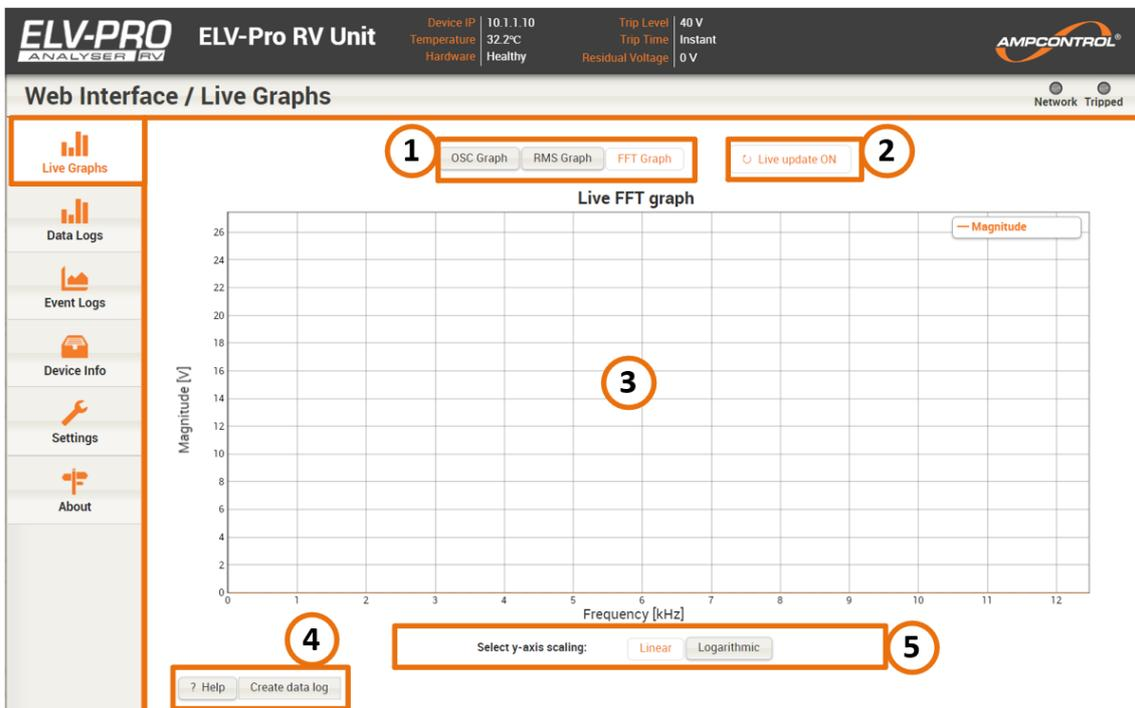

Figure 31: ELV-PRO RV Web Interface - Live Graphs (FFT)
- **FFT graph:** This plot shows the frequency content of the past 80ms worth of instantaneous measurements, Figure 31.